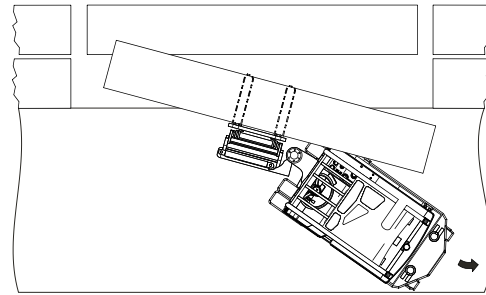

Figure: 4-52 Removing the Load
11. \*Slowly move (creep) the truck in reverse. At the same time, pivot the load to the right to position it parallel to the truck. (See Figure 4-52.)